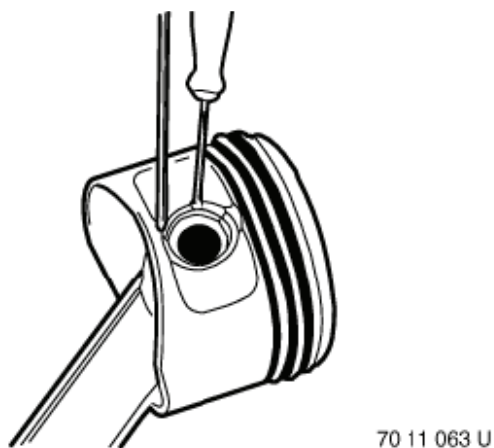

Figure 5-47
11. Remove the wrist pin retaining rings (**Figure 5-47**).